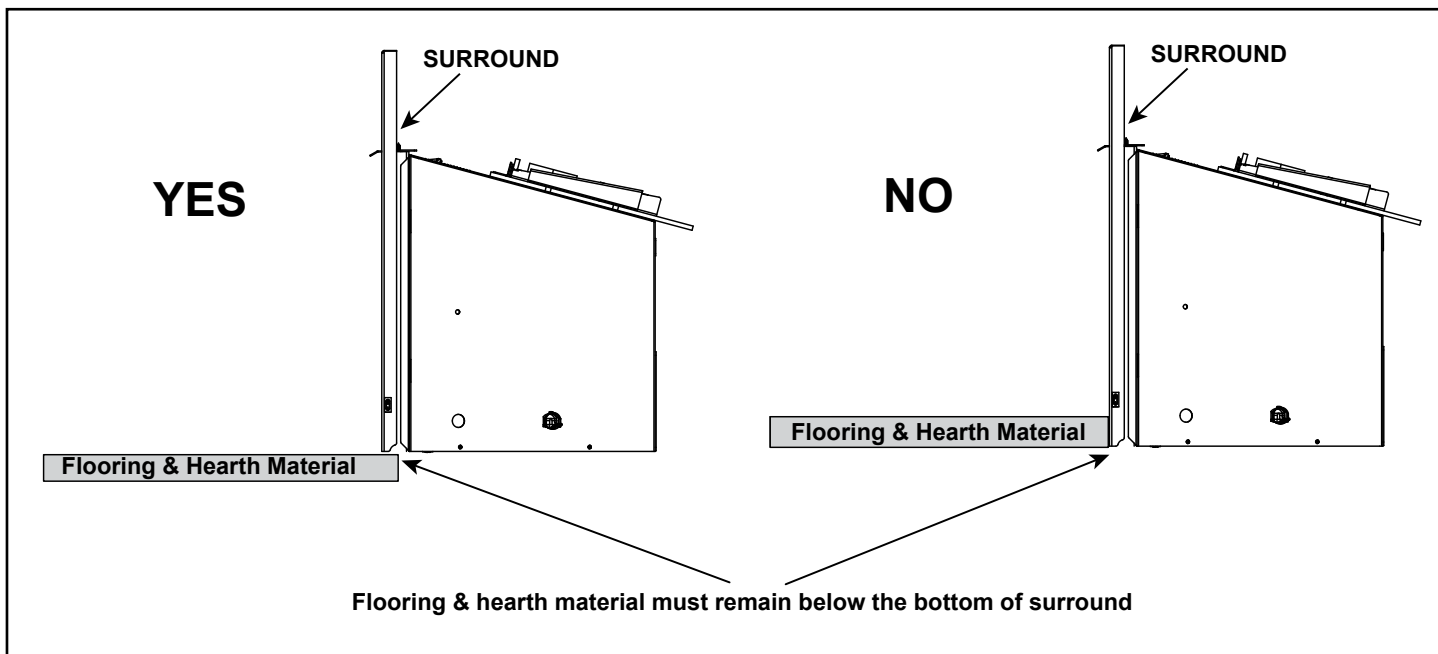

Figure 3.18 Flooring & Hearth Material
- All flooring and hearth material must remain below the bottom of the surround. See Figure 3.18.